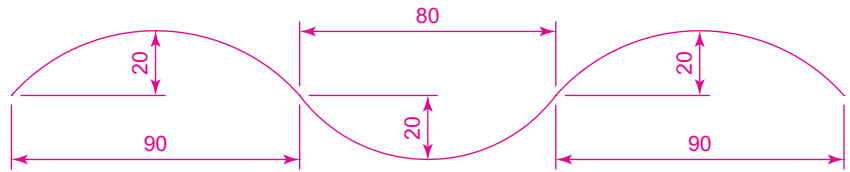

Fig. 14.38 First example – 3D Surface – polyline to be extruded
1. In the **ViewCube/Top** view, on a layer colour **magenta**, construct the polyline Fig. 14.38.